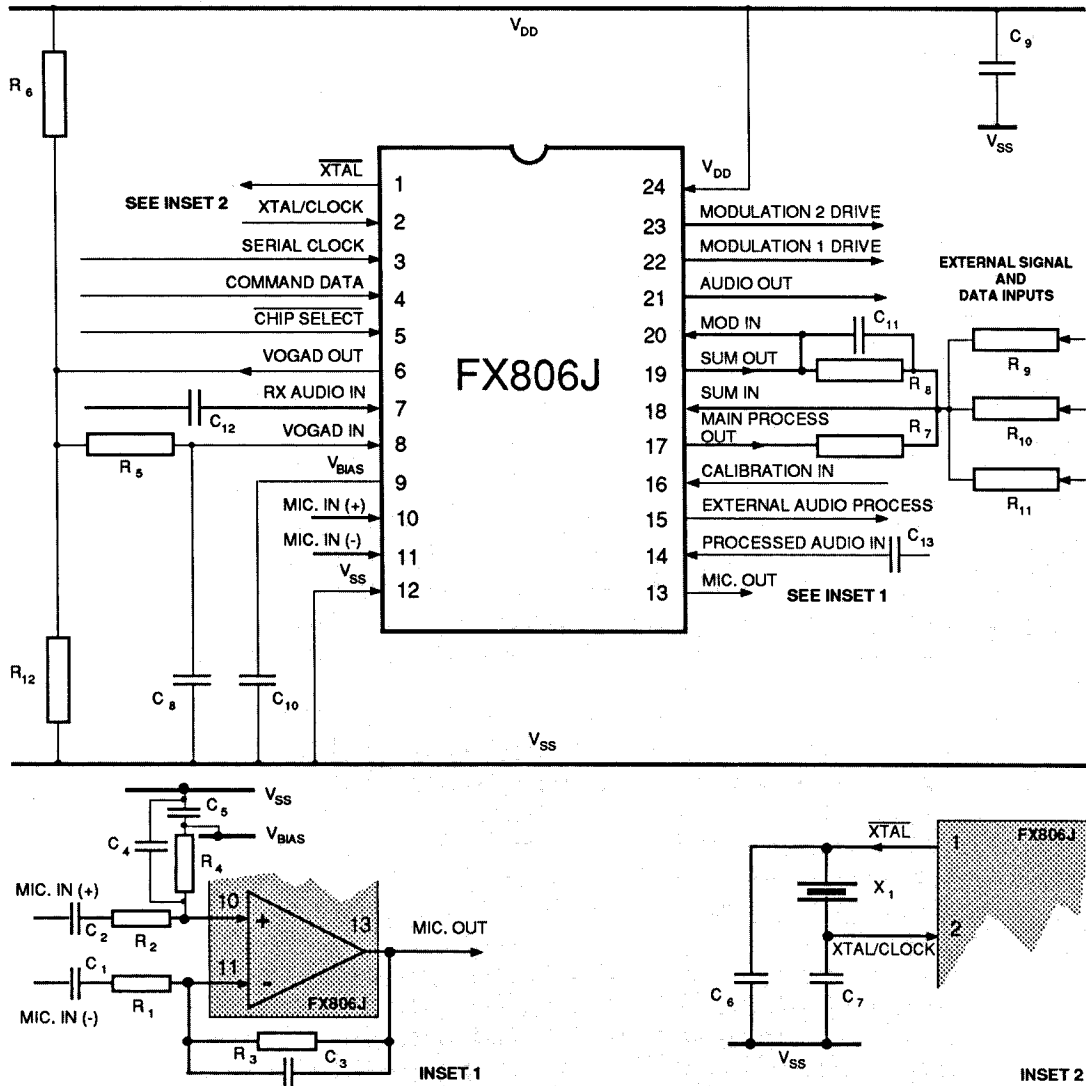

Fig.2 Recommended External Components
- | 1  | Xtal: The output of the on-chip clock oscillator. External components are required at this output when a Xtal is employed. See Figure 2, INSET 2.  |
| 2  | Xtal/clock: The input to the on-chip clock oscillator inverter. A Xtal or externally derived clock should be connected here. See Figure 2, INSET 2. This clock provides timing for on-chip elements, filters etc.  |
| 6  | VOGAD Out: The output of the selected VOGAD sensor. This output, with external attack and decay setting components, should be connected as in Figures 2 and 3, to the VOGAD In pin.  |
| 8  | VOGAD In: The gain control signal from the selected VOGAD sensor to the Input Process Voltage Controlled Amplifier. The required sensor is selected via a Mode Command. The choice of two sensors enables gain control from either the Input Process or an External Process. External attack and decay setting components should be applied as recommended in Figures 2 and 3.                                       |
| 9  | <math>V_{BIAS}</math>: The output of the on-chip analogue circuitry bias system, held internally at $V_{DD}/2$ . This pin should be decoupled to $V_{SS}$ by a capacitor $C_{10}$ . See Figure 2.  |
| 10 | Mic In (+): The non-inverting input to the microphone Op-Amp. This input requires external components for Op-Amp gain/attenuation setting as shown in Figure 2, INSET 1.   |
| 11 | Mic In (-): The inverting input to the microphone Op-Amp. This input requires external components for Op-Amp gain/attenuation setting as shown in Figure 2, INSET 1.   |
| 13 | Mic Out: The output of the microphone Op-Amp, used with the Mic In (–) input to provide the required gain/attenuation using external components as shown in Figure 2. The external components shown are to assist in the use of this amplifier with either inverting or non-inverting inputs. During Powersave (Volume Command) this output is placed at $V_{SS}$ . |
| 17 | Main Process Out: The output of the Main Process stage. This output is summed with additional system inputs as required (Audio, Sub-Audio Signalling, FFSK – See Document 1, System Overview) in the on-chip Modulation Summing Amplifier. External components as shown in Figure 2 should be used as required.   |
| 18 | Sum In:The input and output terminals of the on-chip Modulation Summing Amplifier. External components are required for input signals, with gain/attenuation setting as shown in Figure 2. For single-signal, no-gain requirements, Main Process Out may be linked directly to Modulation In.   |
VOGAD attack and decay times are set using the external components shown in Figures 2 and 3, and are calculated as described below.
### VOGAD Components Calculations – Figures 2 and 5